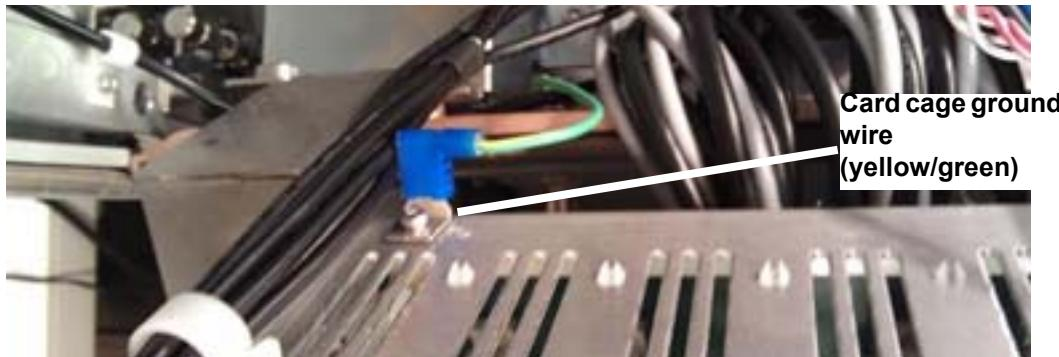

Figure 4-21 Card Cage Ground Wire and Connector
- 4.5 Connect the safety tester meter lead to the ground connector located on the bottom of the card cage. See Figure 4-21.